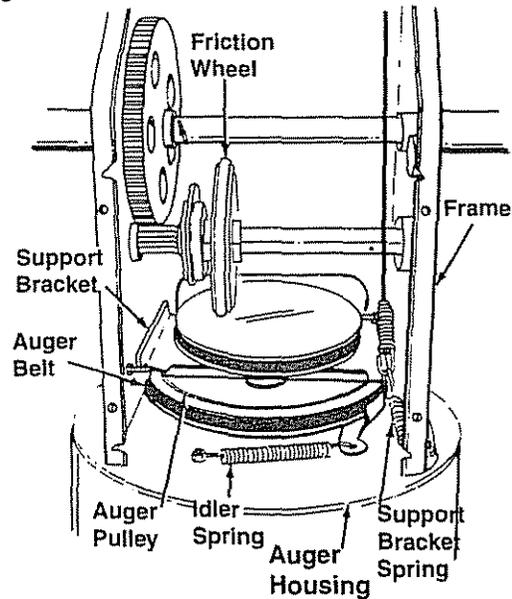

Figure 17
6. Unhook the idler spring from the hex bolt on the auger housing. See Figure 17.
8. Lift the rear auger belt from the auger pulley, and slip belt between the support bracket and the auger pulley. See Figure 17. Repeat this step for the front auger belt.